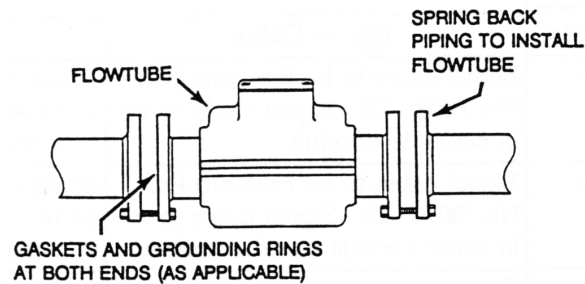

Figure 14. Installing Flowtube into Pipeline
- b. Refer to Figure 14. Spring back piping to allow clearance as necessary to insert flowtube without causing damage to lining.